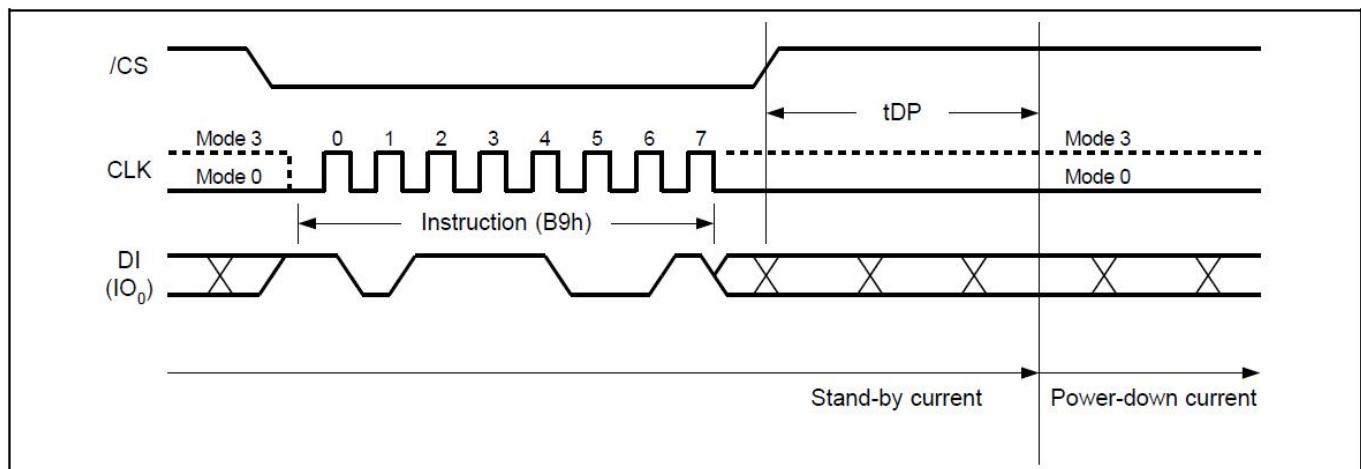

Figure14. Deep Power-Down Sequence Diagram
The Deep Power-Down Mode automatically stops at Power-Down, and the device always in the Standby Mode after Power- Up. The Deep Power-Down command sequence: CS# goes low → sending Deep Power-Down command → CS# goes high. The command sequence is shown in Figure14. CS# must be driven high after the eighth bit of the command code has been latched in; otherwise the Deep Power-Down (DP) command is not executed. As soon as CS# is driven high, it requires a delay of t_{DP} before the supply current is reduced to $ICC2$ and the Deep Power-Down Mode is entered. Any Deep Power- Down (DP) command, while an Erase, Program or Write cycle is in progress, is rejected without having any effects on the cycle that is in progress.